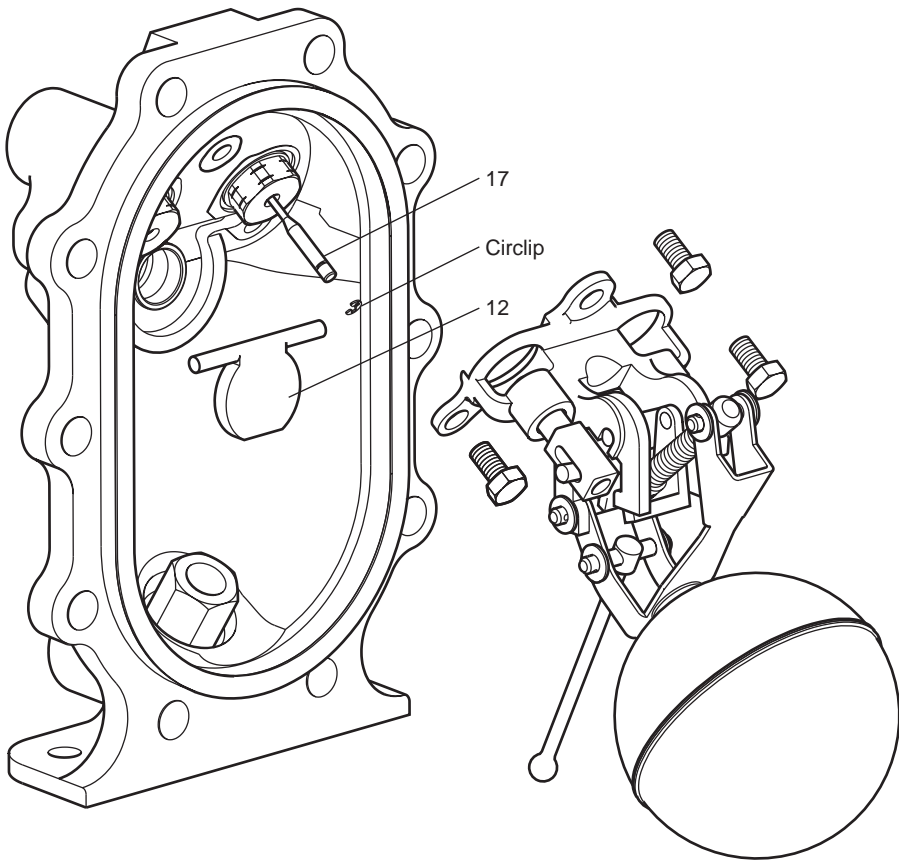

Fig. 3
3. Carefully remove the circlip from the end of the steam inlet valve (item 17).
5. Lift away the pump bracket assembly (See Fig. 3). This will allow access to the inlet swing check valve (item 12).
13. Carefully reconnect the motive steam supply and the exhaust lines to the connections marked (S) and (E), and the condensate inlet and outlet to the connections marked (IN) and (OUT). The APT10-4.5 is now ready to recommission.